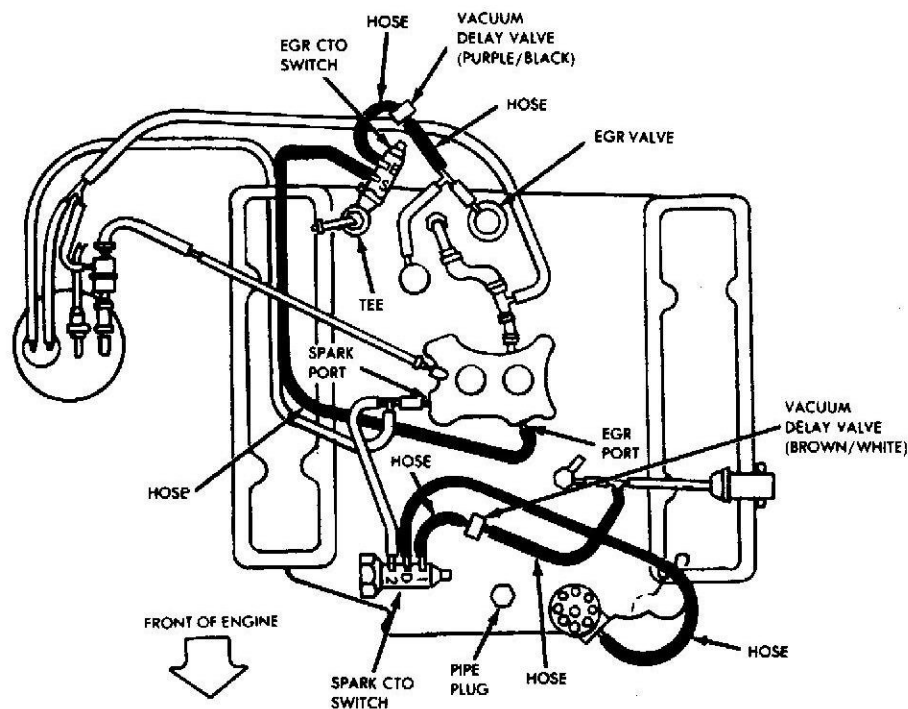

Fig. 1 Hose Routing
- (2) Drain coolant from radiator.
- (3) Remove air cleaner.
- (4) Remove original EGR valve and orifice plate.
- (5) Install new EGR valve and orifice plate with new gaskets (fig. 1).
- (6) Remove EGR CTO switch from thermostat housing and lay aside for later installation.
- (7) Install 3/8-inch pipe plug in thermostat housing in place of original EGR CTO switch (fig. 1).
- (8) Remove original spark control CTO switch from intake manifold and discard.
(9) Install new spark control CTO switch in right front corner of intake manifold (fig. 1).
(10) Disconnect heater hose from heater hose nipple located on right rear of intake manifold.
(11) Remove vacuum fittings at right rear of intake manifold to provide turning clearance for heater hose nipple.
(12) Remove transmission filler tube to engine bolt and move filler tube to provide turning clearance for heater hose nipple.
(13) Remove heater hose nipple from right rear corner of intake manifold.
(14) Install heater nipple and EGR CTO switch tee fitting in right rear corner of intake manifold (fig. 1).
(15) Install heater hose nipple in tee fitting.
(16) Install EGR CTO switch in tee fitting (fig. 1). Connect heater hose to nipple.
(17) Install vacuum fittings in right rear corner of intake manifold.
(18) Return transmission filler tube to original position and install retaining bolt.
(19) Remove original vacuum check valve and hoses between spark CTO switch and vacuum tee fitting.
(20) Install vacuum delay valve (brown and white) in vacuum circuit between spark CTO port (1) and vacuum source. Use 2-inch and 10-inch lengths of vacuum hose (fig. 1).
(21) Connect 21-inch long vacuum hose to spark CTO center port (D) and distributor vacuum advance (fig. 1).
(22) Connect existing hose from carburetor spark port to spark CTO switch number (2) port (fig. 1).
(23) Install delay valve (purple and black) in EGR CTO vacuum circuit between CTO switch port (E) and existing vacuum tee at EGR valve. Use two, 2-inch lengths of vacuum hose (fig. 1).
(24) Connect port (S) on EGR CTO switch to EGR port on carburetor. Use 24-inch length of vacuum hose (fig. 1).